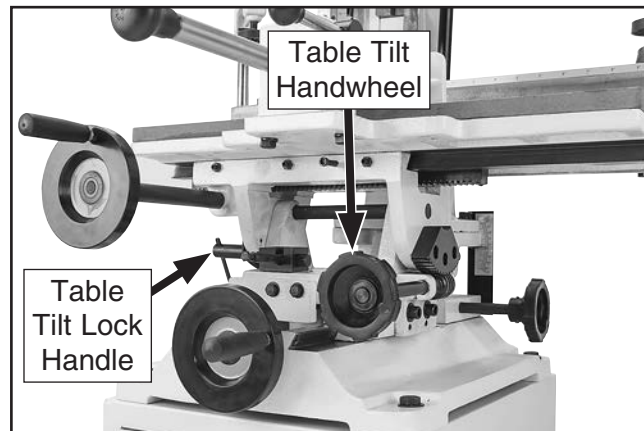

Figure 21. Table tilt controls.
1. Unlock table tilt lock handle (see **Figure 21**), and turn tilt handwheel left or right to tilt table.